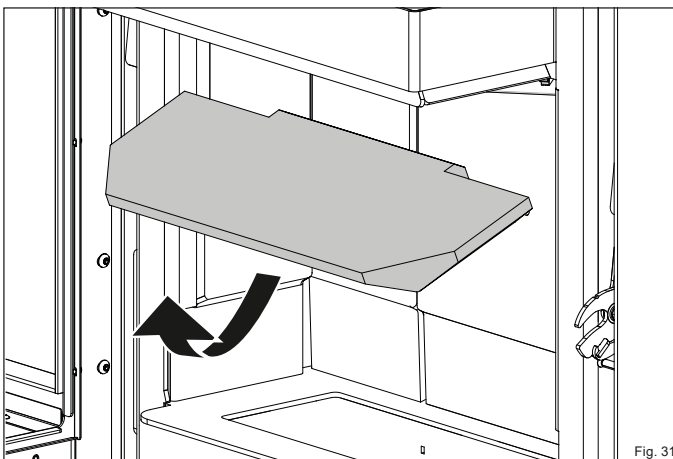

Fig. 31
- ▶ Carefully remove the top firebrick from the firebox (Fig. 31).